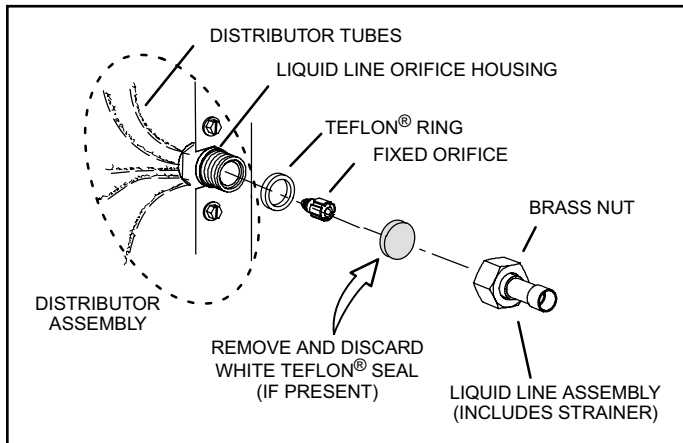

Figure 6. Remove Fixed Orifice (Uncased Coil Shown)
4. Remove and discard fixed orifice, valve stem assembly (if present) and Teflon® washer, as shown in Figure 6.